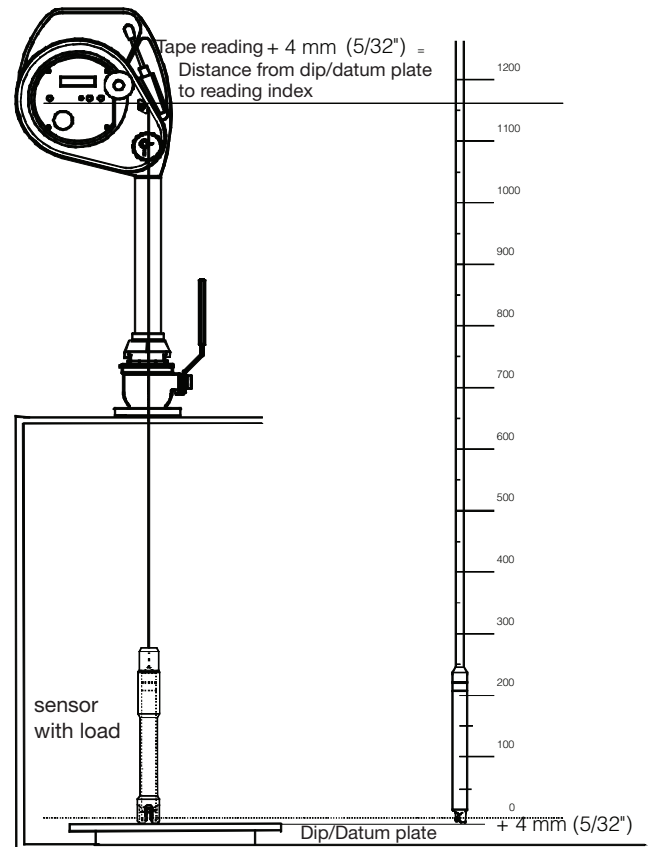

Figure 9-9
- When the sensing probe comes in contact with the dip/datum plate record the distance shown on the reading index. See Figure 9-9. The exact distance from the plate to the reading index is (reading + 4 mm) or (reading + 5/32") which is the reference height providing the reading index level has been adjusted to the zero ullage level of the tank. If the tank zero ullage is levelled above or below the reading index, an additional correction shall apply. For more details refer to section "Installation of the gauging system".